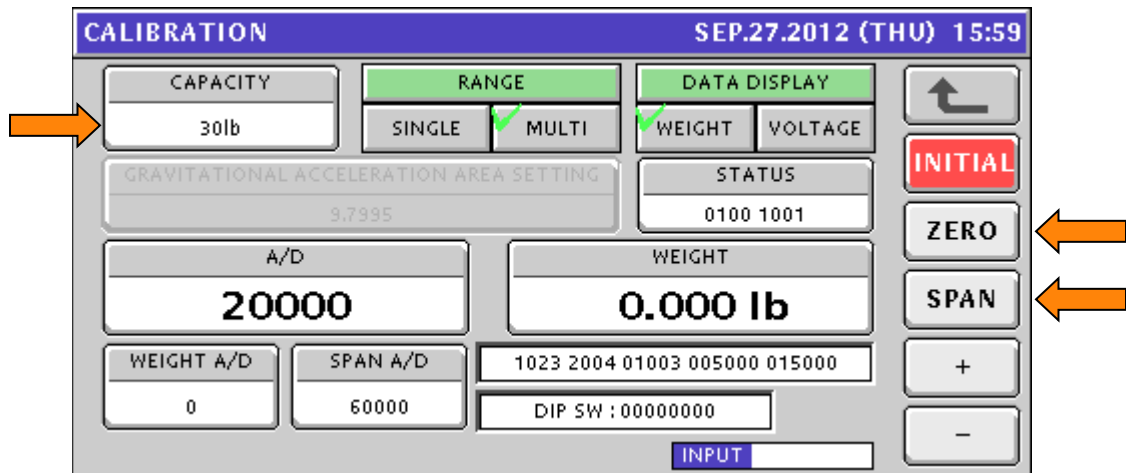

Figure 55. Calibration Screen
- d. Scroll down and select **CALIBRATION** (page 2/3). See Figure 55.